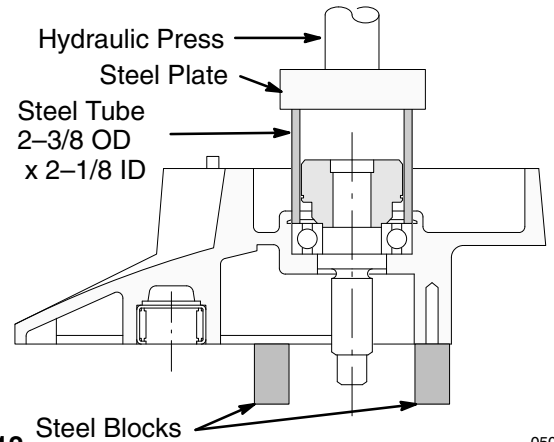

Fig. 12
3. Press the new pinion shaft assembly into the pinion housing, pushing it to the shoulder of the housing (11a). See Fig. 12. Use a steel tube to press on the outside diameter of the bearing to prevent damage to the bearing.
7. **Using a hydraulic press**, Install the pinion shaft assembly, by pressing it to the shoulder of the housing (11a). Use a steel tube to press on the bearing outer race to prevent damage to the bearing. See Fig. 12.